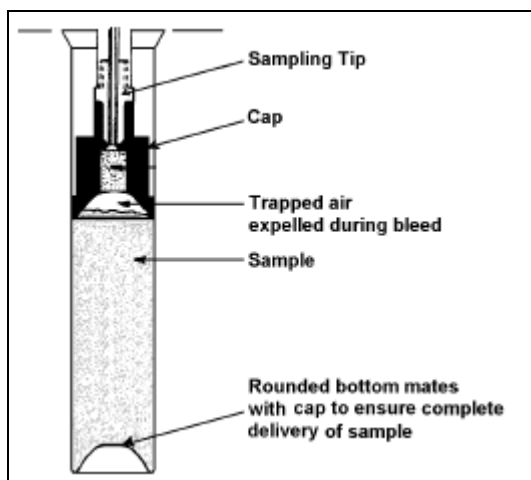

Figure 9: Sample vial with cap ready for analysis
4. Continue filtering samples into vials making sure not to exceed the maximum amount of samples (25) that can be filtered per vial.
- e. Place the caps on the vials. Use the Cap tool to press down the caps. Use the figure below for reference. Figure 9 illustrates the correct position of the cap within the vial. Notice that the larger end of the cap is on the bottom side while the smaller end of the cap is facing the top. The top of the cap should be even with the top of the vial. Use the flat end of the Cap tool to press the cap down to the correct position.